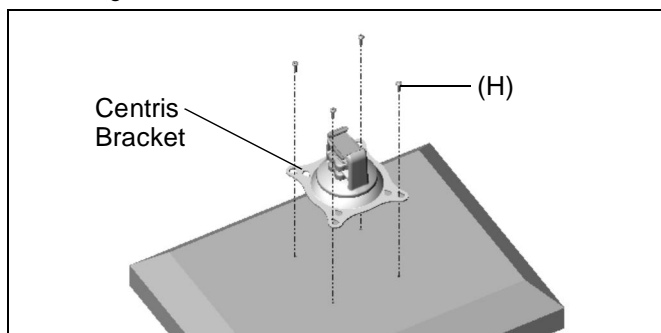

Figure 4
3. Using Phillips screwdriver, install four M4x12mm screws (H) through the mounting holes in Centris bracket into the display (See Figure 4). Tighten all four screws (H). Do not overtighten!